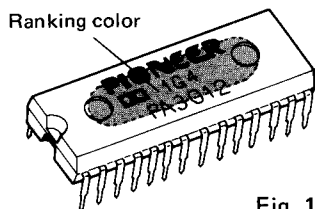

Fig. 1
3. The colors in table 1 refer to the color marking on the top surface of the IC package (see fig.1).